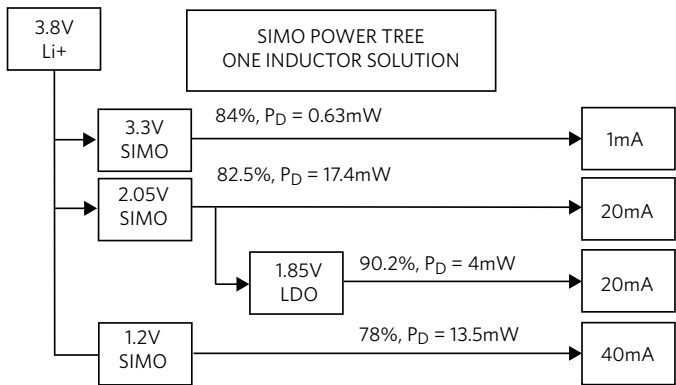

Figure 6. MAX77650 Power Tree
Figure 6 shows the PMIC power tree with each regulator's output voltage, load current, efficiency and power dissipation (PD). Three of the four loads connect to the Li+ battery via a high-efficiency SIMO switching regulator. The fourth load is powered by the LDO from the 2.05V SIMO output, which achieves 90.2% efficiency (1.85V/2.05V). The overall system efficiency is an outstanding 78.4%.